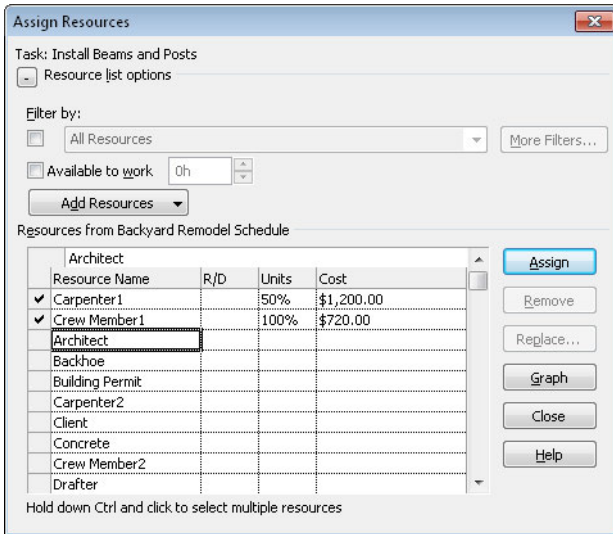

FIGURE 6-12 The Assign Resources dialog box is the most powerful tool for assigning resources.
The Assign Resources dialog box, shown in Figure 6-12, has all kinds of helpful features for assigning resources. To open this dialog box, on the Resource tab, in the Assignments group, click Assign Resources. In the Assign Resources dialog box, you can choose resources by clicking the cells to the left of their names. But you can do a lot more:
- Click the plus symbol to the left of Resource List Options to filter the list of resources you see. For example, you can locate resources who have enough time available to perform the task. When you click the plus symbol, it changes to a minus symbol, as shown in Figure 6-12.